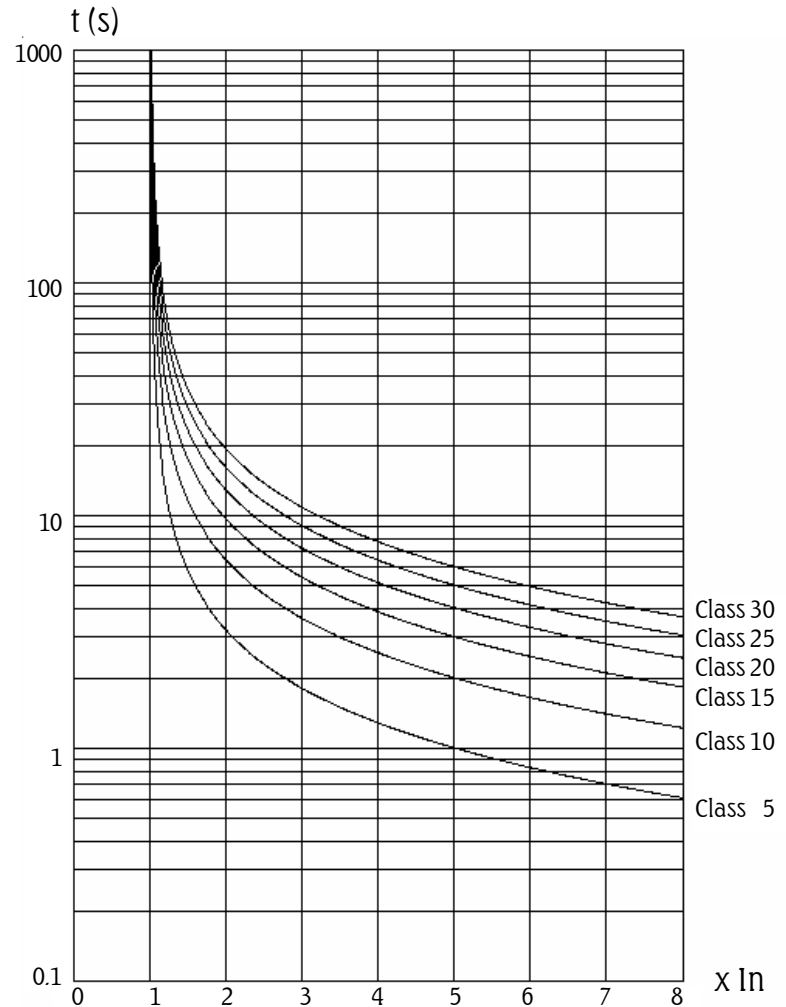

Figure 6.11 - Thermal Classes for Hot Motor Protection
2) In the hot chart Figure 6.11, we can find the maximum Thermal Class that the motor will withstand due to the hot locked rotor time: